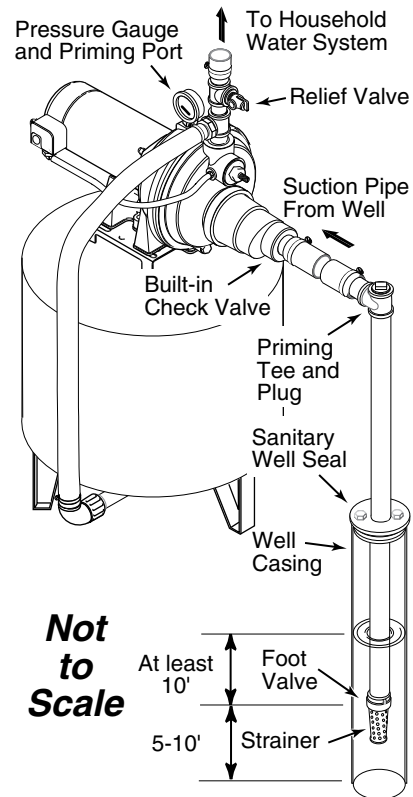

Figure 5 – Cased Well Installation
Cased Well Installation, 2” or Larger Casing (Figure 5)
3. Assemble the foot valve, strainer, and well pipe (See Figure 5). Make sure that the foot valve works freely.
5. Install a priming tee, priming plug, and suction pipe to the pump (See Figure 5). Connect the pipe from the well to the pump suction port, using the fewest possible fittings (especially elbows) as fittings increase friction in the pipe. The suction pipe should be at least as large as the suction port on the pump. Use PTFE pipe thread sealant tape on threaded pipe joints. Support the pipe so that there are no dips or sags in the pipe, so it doesn’t strain the pump body, and so that it slopes slightly upward from the well to the pump (high spots can cause air pockets which can air lock the pump). Seal the suction pipe joints with PTFE pipe thread sealant tape. Joints must be air and water-tight. If the suction pipe can suck air, the pump cannot pull water from the well.